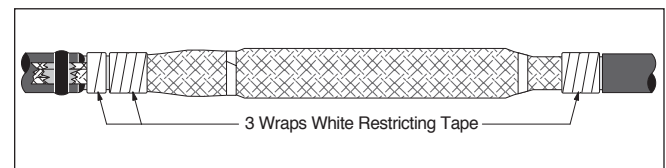

Figure 21
- 7.7 Apply three layers of white restricting tape over all springs. DO NOT tape over exposed PILC cable lead (Figure 21).